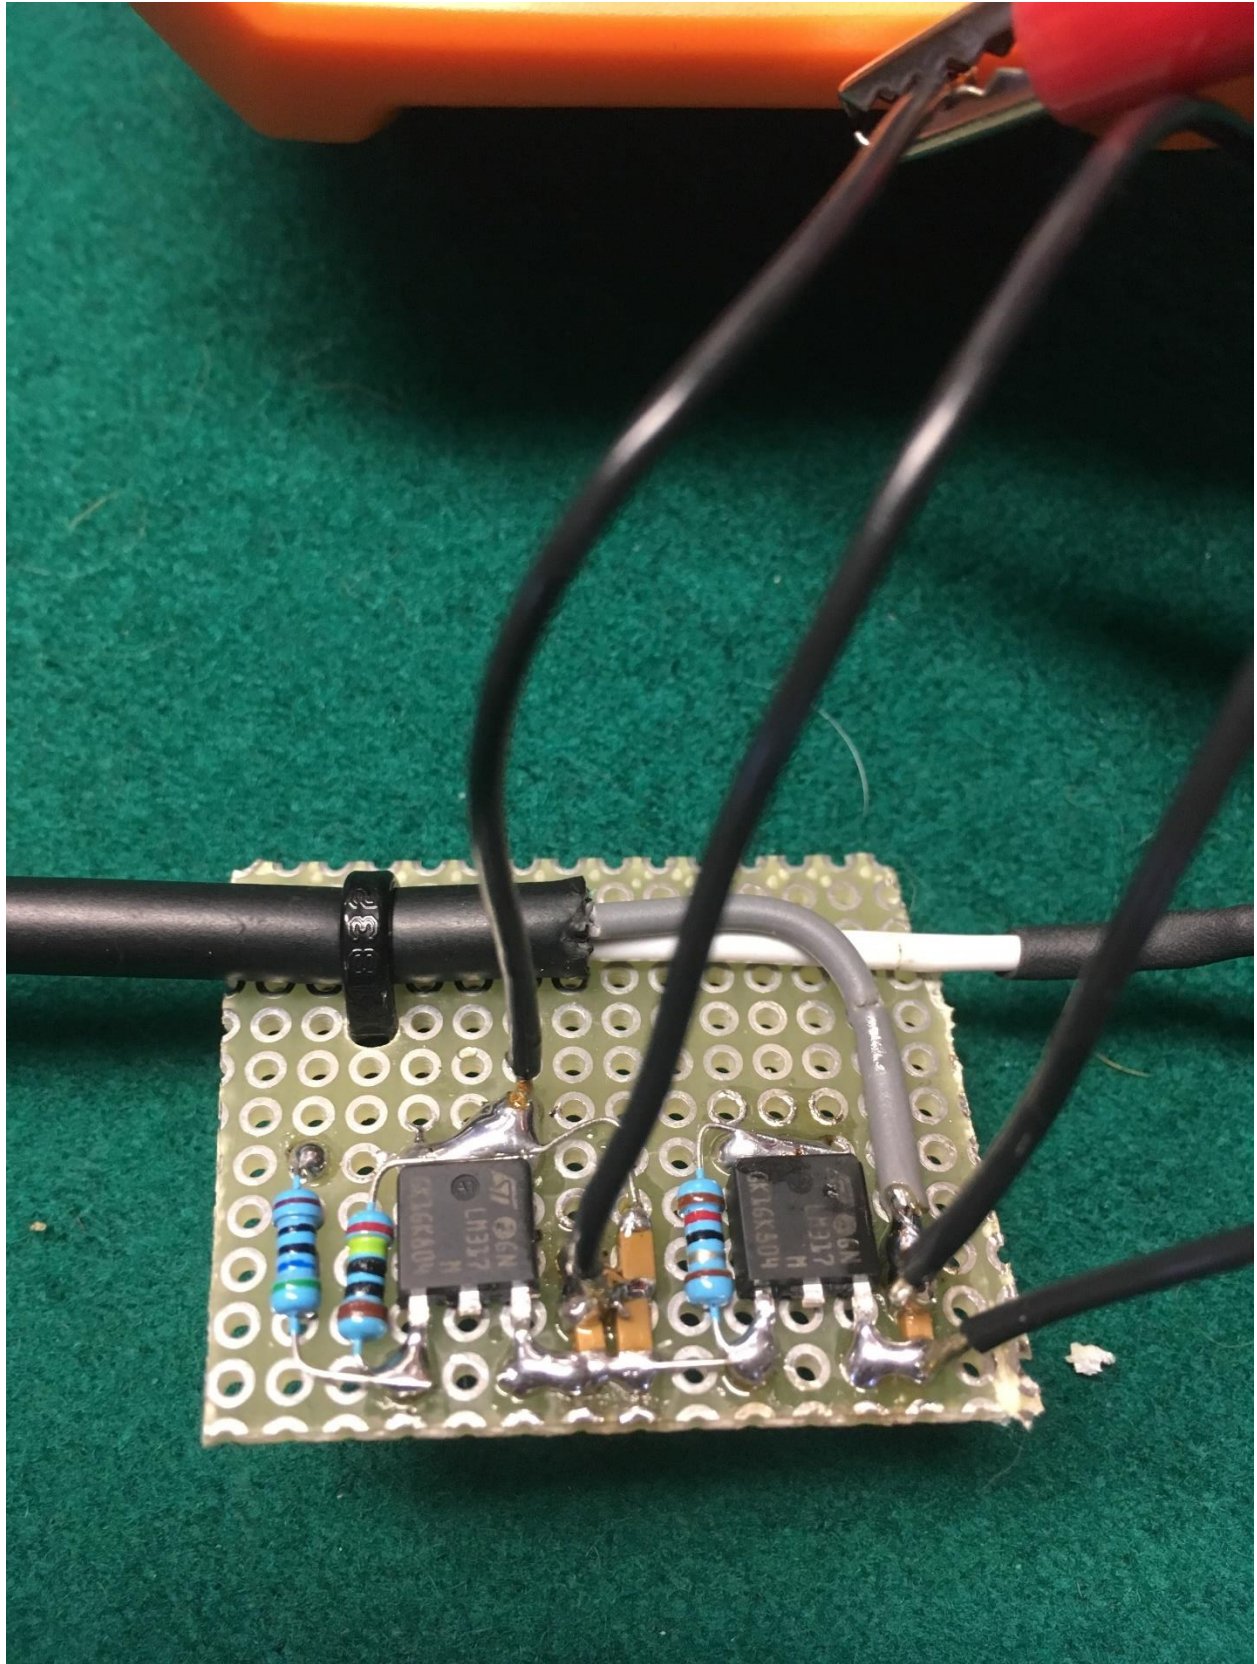

Figure 33 - Closeup of prototype board.
- **Do not use electrolytic capacitors for space application.** Look like a can, in Figure 33